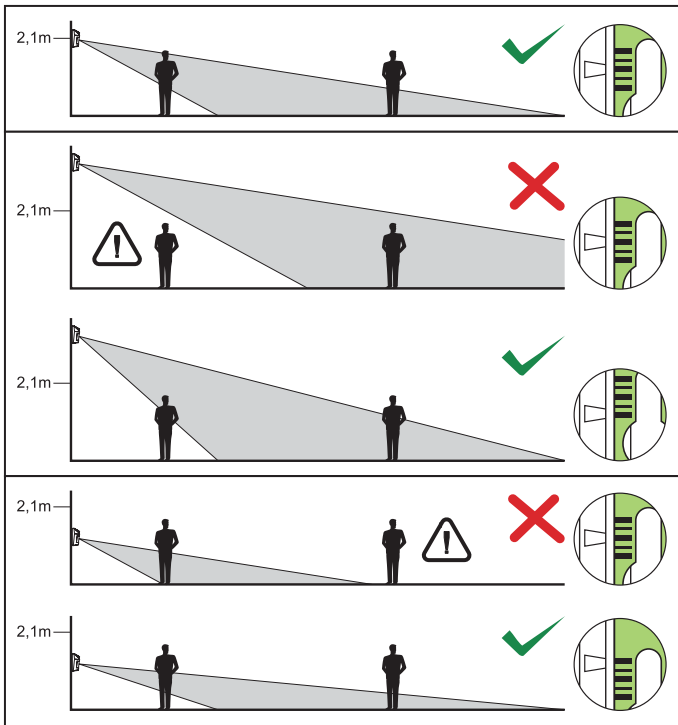

Figure 4. The controlled area depending on the detector installation height and positioning of pyroelement in relation to the lens for the optimal setting.
6 – scale for positioning of pyro element against the lens (see Table 2 and Figure 4).
6. Fasten the electronics board, taking into consideration the height of detector installation (see Table 2 and Figure 4).